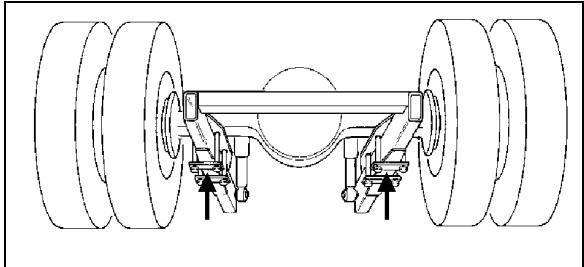

FIGURE 6: JACKING POINTS ON DRIVE AXLE H3B762
- 8. Install jacks under the axle jacking points to support the axle weight (refer to Figure 6).